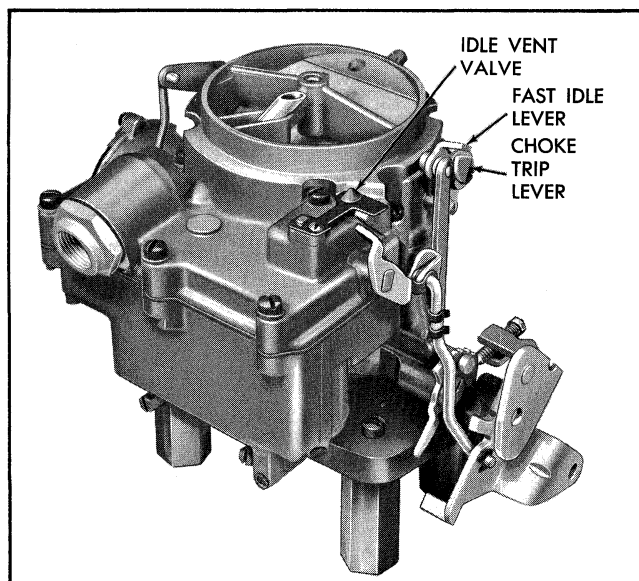

Fig. 6B-62 Carburetor Linkage Installed
2. Bend the tang on the fast idle lever so that the end of wire gauge or drill ($.070'' \pm .010''$ automatic, $.080'' \pm .010''$ synchromesh) just fits between the inner side of the air horn and the upper edge of the choke valve (Fig. 6B-63).